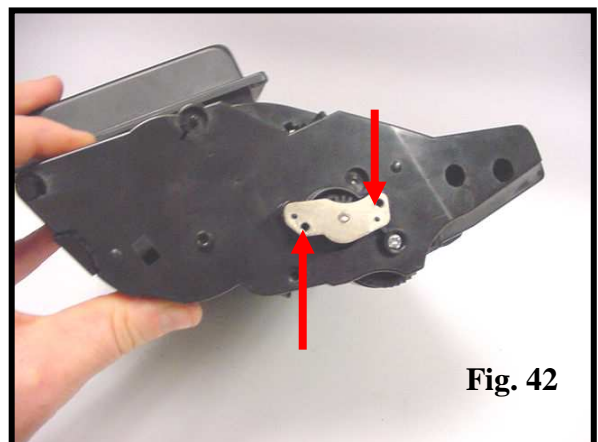

Fig. 42
42. Install the drive gear with the metal plate and secure with two screws (Fig. 42). Install the drum shutter door to the cartridge.